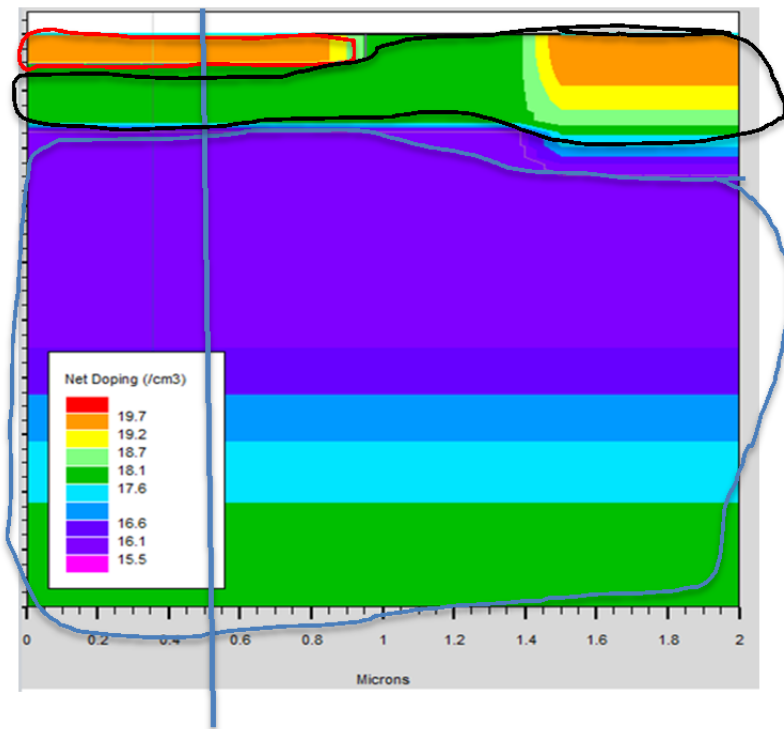

Figure 1: Screenshot from ATLAS.
- Familiarize yourself with the structure (by looking at the plot similar to that in Fig 1 on the previous page). In what direction will current run? How will electrons and holes flow? How do we need to bias the transistor to put it in active mode?